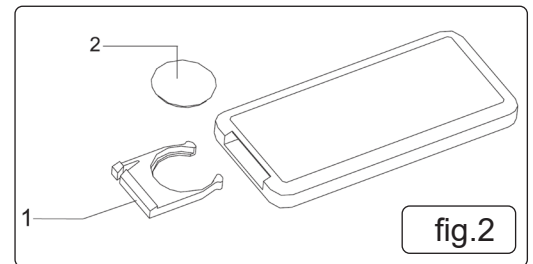

fig.2
4.8.2. Insert one CR2025 battery into the compartment in the back of the handset, ensuring it is correctly inserted (fig.2).
4.9. CHANGING THE REMOTE CONTROL BATTERY(FIG.2)